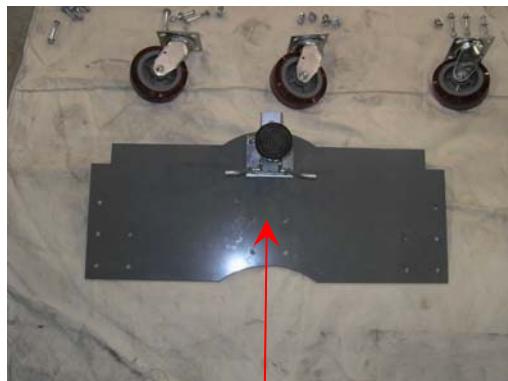

Fig 3.2
- 3.1 Turn Base End Plate to bottom side and bolt on the Foot Brake using four (4) 3/8" x 1" bolts (B) with c/w lock-nut (G) and 3/8" washers (K) (Fig 3.1 and Fig 3.2). **Bolt head and washer should be on the Top Side of plate.**